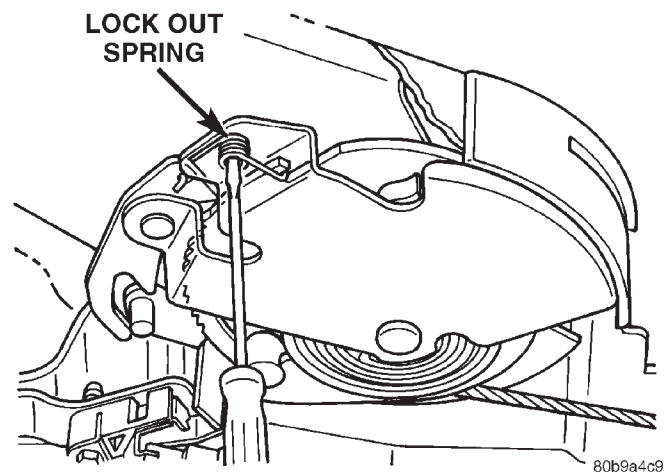

Fig. 44 Lock Out Spring
(4) Have an assistant pry down the lock out spring through the hole in the side of the park brake lever (Fig. 44) with a small screw driver. Then slowly release the front cable.